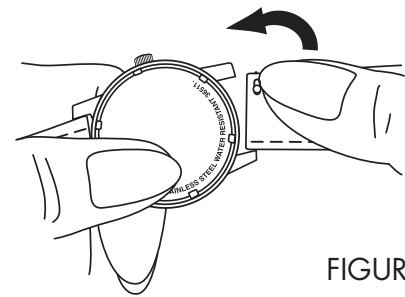

FIGURE 2B
2. (Figure 2B) Insert tip of tension pin furthest away from slide release button into hole in lug.